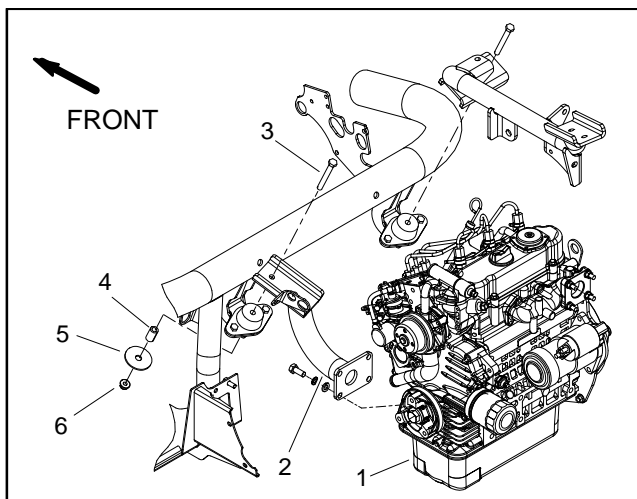

Figure 14
A. Remove cap screw, spacer, snubbing washer and flange nut that secure engine support to engine mount (Fig. 14).
A. Secure engine support (item 23) to engine mount with cap screw, spacer, snubbing washer and flange nut (Fig. 14).